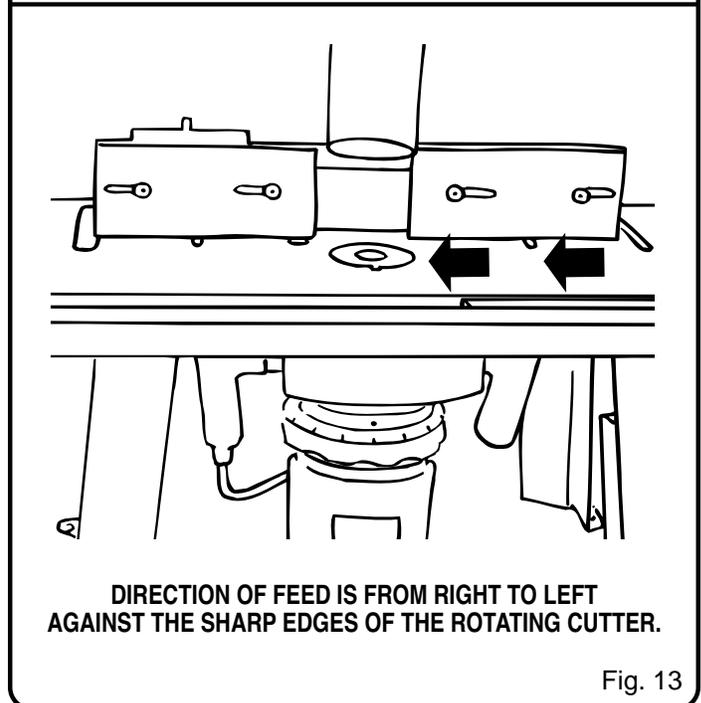

Fig. 13
■ Direction of feed of the workpiece is from right to left or with the cutter located in the fence opening. *See Figure 13.*